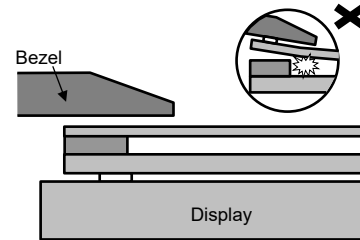

Fig.8
**h. Mounting Touch Screen (Fig.8)**